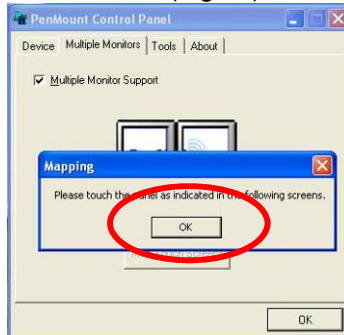

Fig.39
- When the mapping screen message appears, click “OK”. (Fig.39)